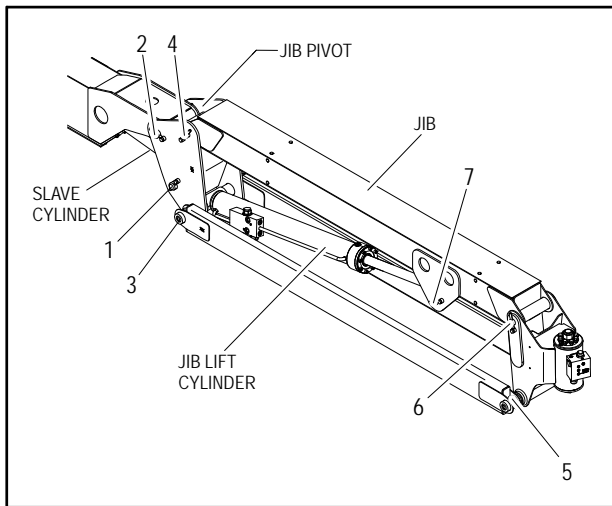

Figure 4-10. Jib Assembly
*Refer to Figure 4-10., Jib Assembly.*